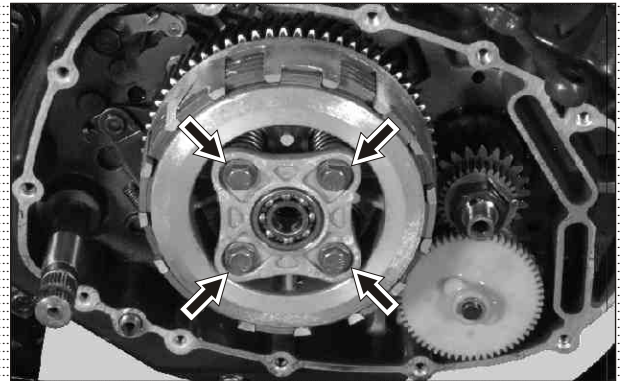

Fig. 3.8
- Remove hexagonal flange head bolts (M6x20 - 4 nos) from the plate clutch release mounting. (Fig. 3.8)